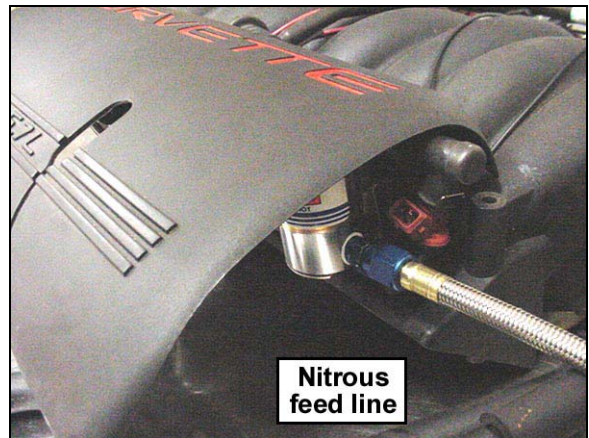

Figure 13
9. Plumb your nitrous supply line to the rear of the nitrous solenoid (Figure 13).